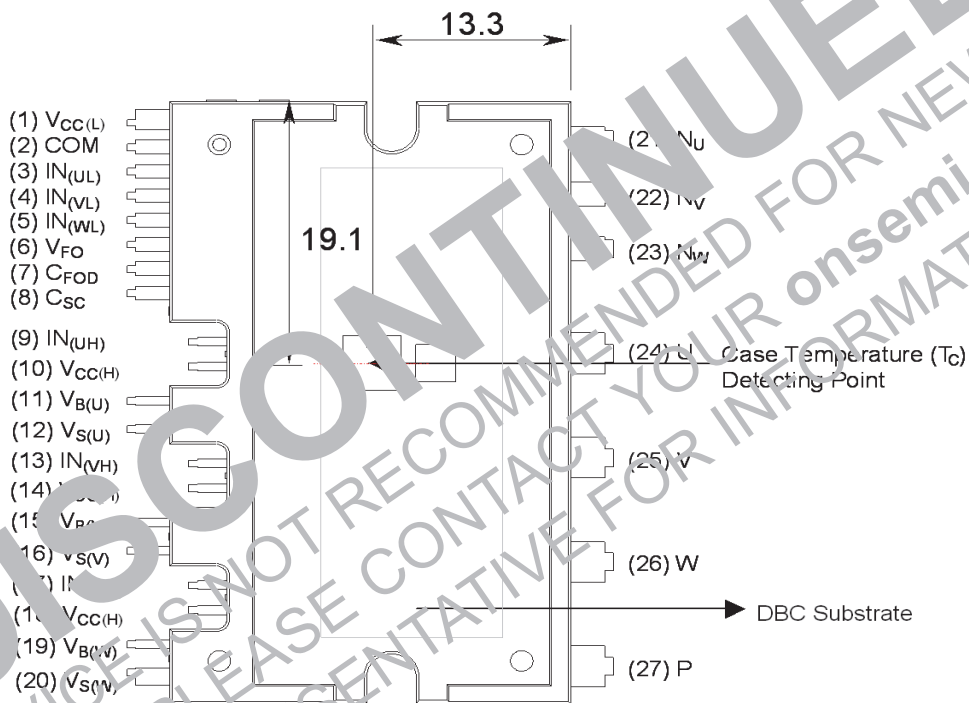

Figure 2. Top View
2. For the measurement point of case temperature ( $T_C$ ), please refer to Figure 2.